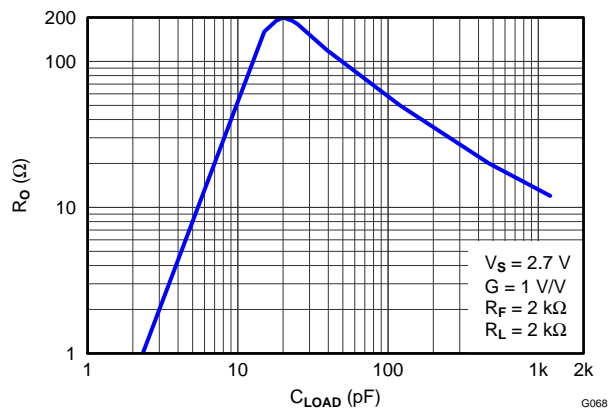
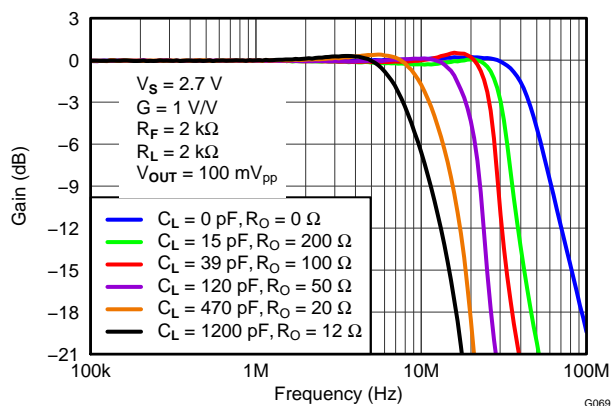

Figure 78. Recommended Series Output Resistor vs Capacitive Load for Flat Frequency Response
Figure 79. Frequency Response for Various  $R_O$  and  $C_L$  Values
Inserting  $R_O$  will compensate the phase shift and restore the phase margin, but it will also limit bandwidth. The circuit shown in Figure 69 is used to test for best  $R_O$  versus capacitive loads,  $C_L$ , with a capacitance placed differential across the  $V_{OUT+}$  and  $V_{OUT-}$  along with 2k $\Omega$  load resistor, and the output is measure with a differential probe. Figure 78 shows the optimum values of  $R_O$  versus capacitive loads,  $C_L$ , and Figure 79 shows the frequency response with various values. Performance is the same on both 2.7V and 5V supply.
4. A series output resistor is recommended to be placed as near to the output pin as possible. See Figure 78 "Recommended Series Output Resistor vs. Capacitive Load" for recommended values given expected capacitive load of design.